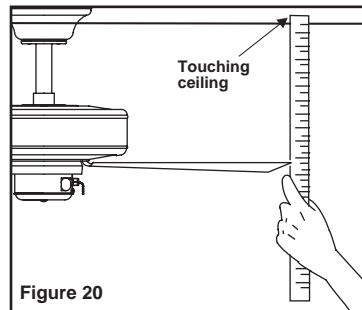

Figure 20
2. Most fan wobbling problems are caused when blade levels are unequal. Check this level by selecting a point on the ceiling above the tip of one of the blades. Measure this distance.(Fig. 20) Rotate the fan until the next blade is positioned for measurement. Repeat for each blade. The distance deviation should be equal within 1/8".